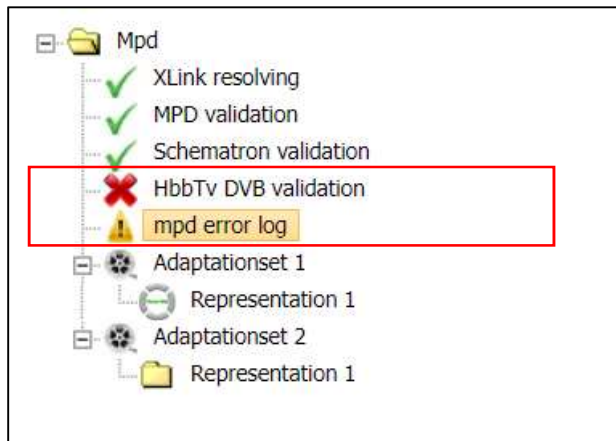

Figure 18 MPD validation results for HbbTV-DVB
3. MPD validation results specific to HbbTV-DVB is shown in Figure 18. The MPD log report is shown in Figure 19 which now contains additional section for HbbTV-DVB MPD rules validation.